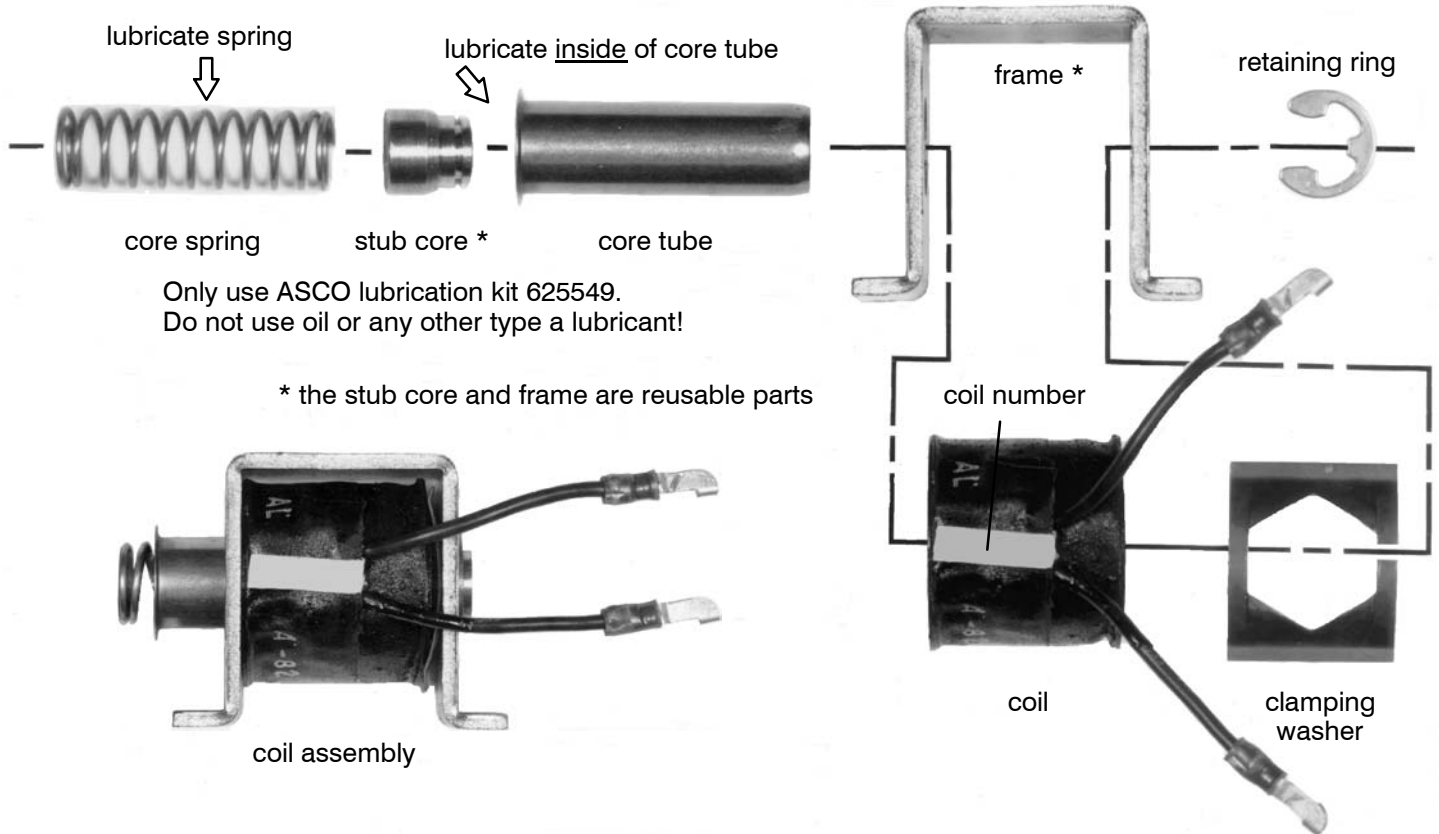

Figure 5. Breakdown of coil assembly.
1. On the coil assembly, slide back the sleeving onto the switch wires (not onto the coil leads) to expose the in-line knife lugs. Disconnect the coil leads from these wires by bending the knife lugs 90 degrees and then unhooking them. See Figure 5.
2. Remove the coil assembly from the base by removing two screws. Use a 9/64, allen wrench counterclockwise. This assembly is under spring pressure to the right. Leave the core hooked onto the rotating weight. Take the coil assembly to a work bench for disassembly. See Figure 5.
3. Pull the core spring out of the core tube. Use a screwdriver to pry off the retaining ring that secures the core tube assembly in the frame. Then push the core tube assembly out the other end of the frame. See Figure 5.
4. Remove the coil and clamping washer from the frame. See Figure 5. *(continued on page 3)*
5. Install the new coil and new clamping washer from the coil kit into the frame. Position the coil leads toward the smaller hole in the frame as shown. See Figure 5.